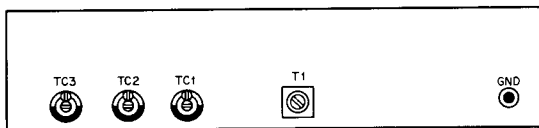

Fig. 21 CAR unit
- 1) Connect RF VTVM to TP5 in IF unit (X48-1150-00) and adjust oscillation coil T1 in CAR-1 unit (X50-1310-00) until the meter reads 50mV (refer to Fig. 21). (refer to Fig. 24 IF unit)